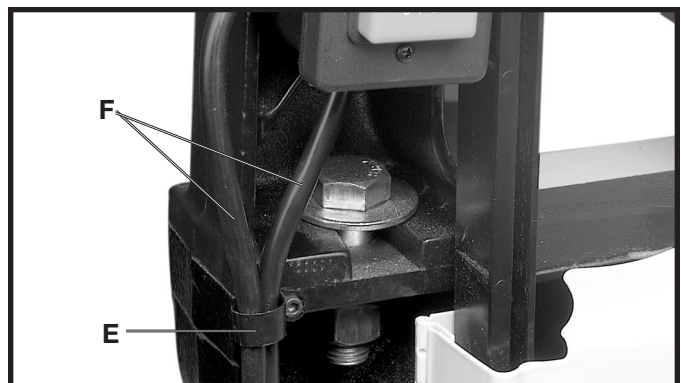

Fig. 37
4. Remove the screw and cable clamp (E) Fig. 37 from the lower arm of the band saw.
5. Insert the switch cord and power cord (F) Fig. 37 into the clamp (E), and fasten to the bandsaw.